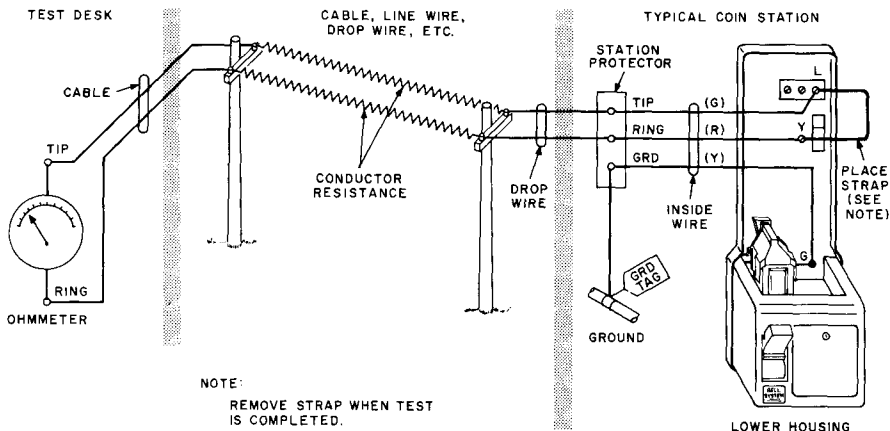

Fig. 3 — Loop Resistance Measurement
- Connections for loop and ground resistance measurements for a typical coin station are shown in Fig. 3 and 4, respectively. See Table B for use of dial long line equipment.